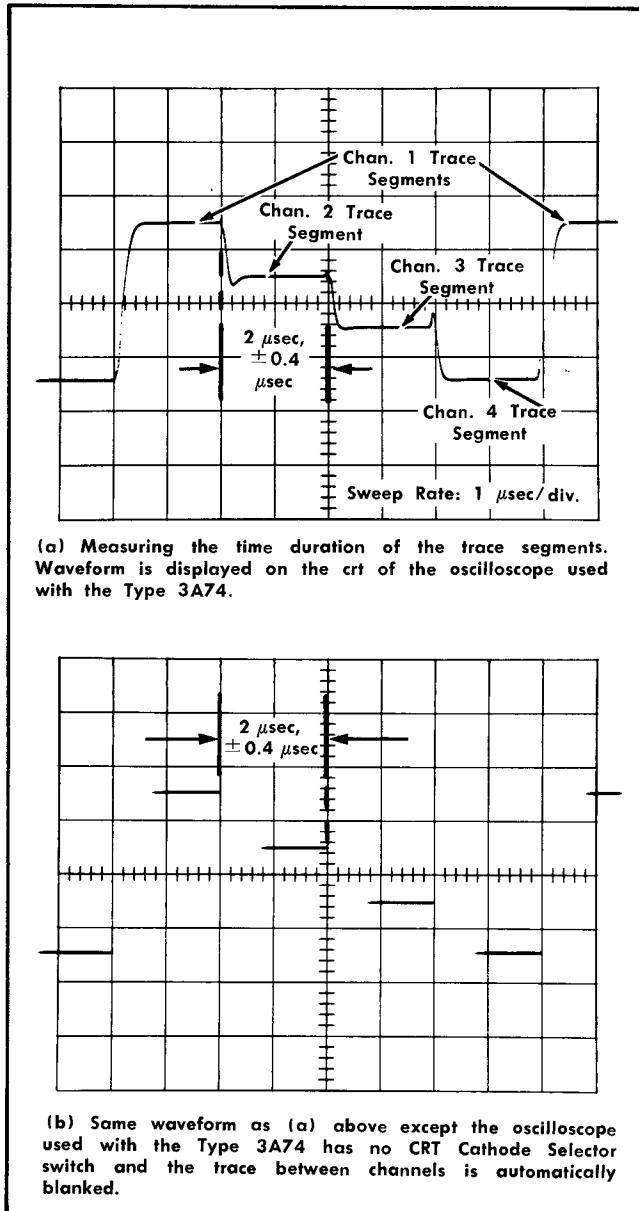

Fig. 6-3 Checking the free-running repetition rate of the Blocking Oscillator stage.
- Check the chopped segments of the trace for an "on time" duration of $2 \mu\text{sec}$, within a tolerance of $0.4 \mu\text{sec}$ (see Fig. 6-3). If the segments are within the specified time duration, the Blocking Oscillator stage is operating at a repetition rate of 500 kc, within a tolerance of 25%.